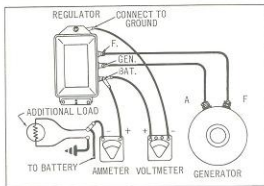

Figure 51-4.
**D. TESTING CURRENT CONTROL UNIT SETTING ON 3 UNIT REGULATORS (FIG. 51-4)**